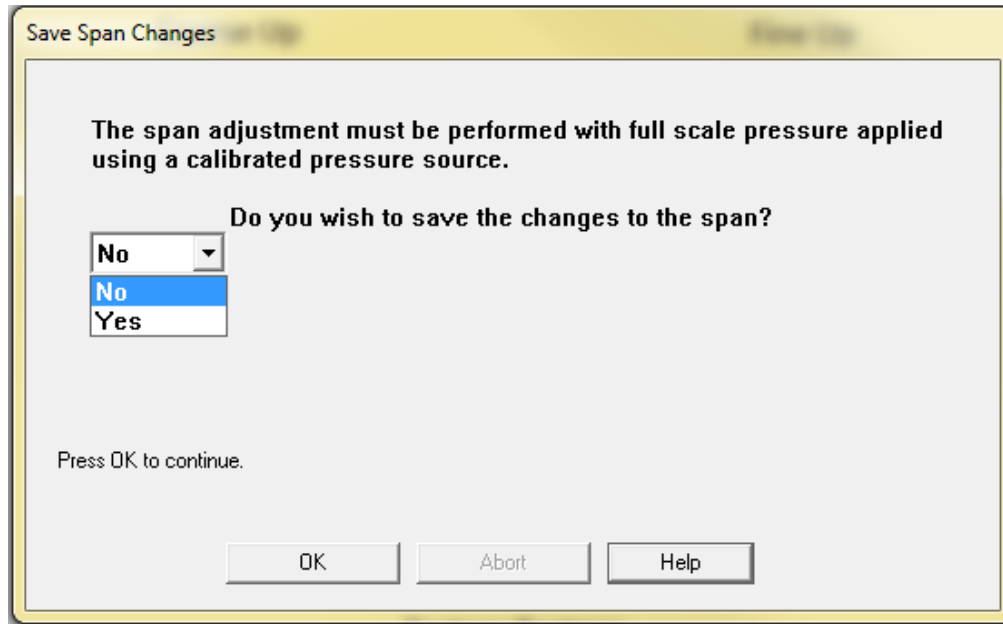

Figure 14 Save Span Changes Dialogue Box
3. The span setting must be stored in the 511/521/522 by clicking the “Save Changes” button. The “Save Span Changes” option box will prompt you to confirm whether or not you wish to save the span setting to the device. (see Figure 14) If the settings are not saved when the unit is powered down, it will go back to the last saved setting when it is powered back up.